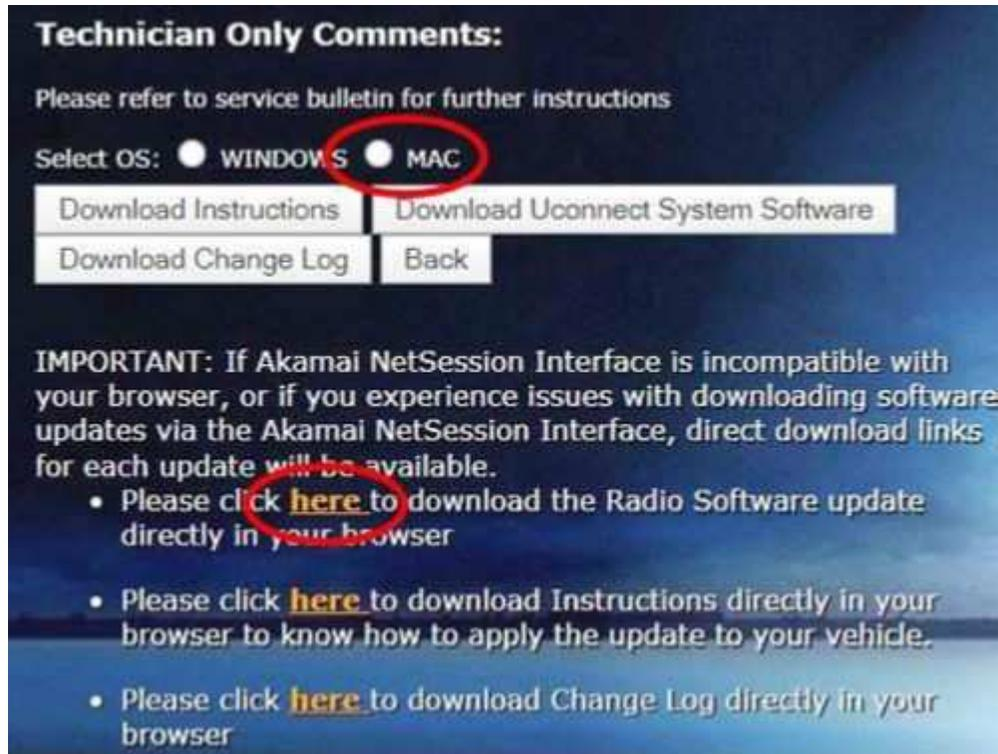

Fig. 3
5. Make sure to select the “MAC” radial button for all downloads (Fig. 3) .
6. Download the software update file to your local PC’s desktop, then download the file to your designated folder (Fig. 3) before extracting the zip file to the blank USB flash drive.